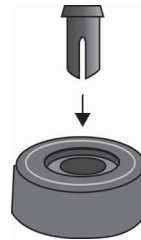

Figure 83. Inserting the Rivet Housing into the Bumper Foot
2. Inset a rivet housing into a bumper foot. Refer to Figure 83.